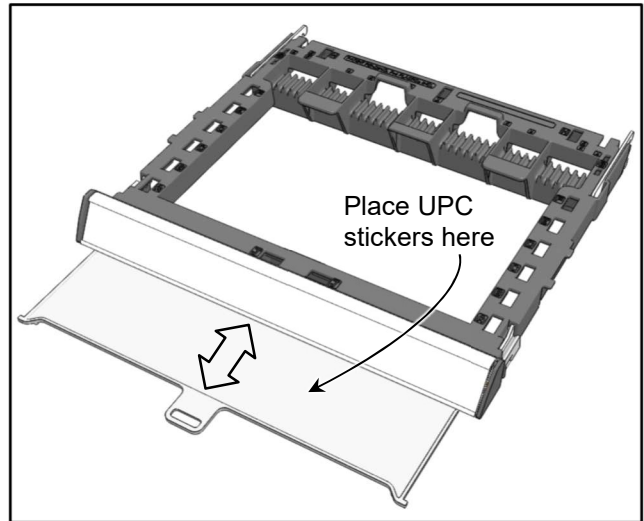

Figure 30
2. Place UPC re-order stickers on the drawer (See Figure 30).